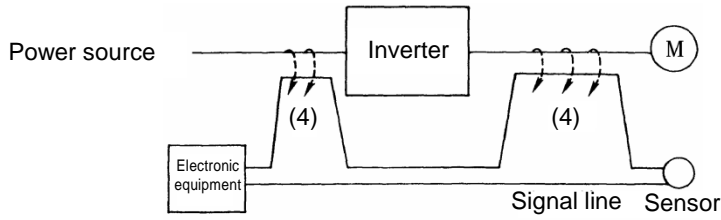
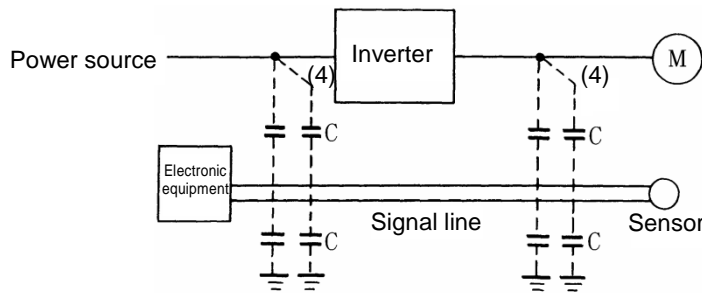

Figure A-4 Electromagnetic Induced Noise
Figure A-5 Electrostatic Induced Noise
**(2) Induction noise**
When wires or signal lines of peripheral devices are brought close to the wires on the input and output sides of the inverter through which noise current is flowing, noise will be induced into those wires and signal lines of the devices by electromagnetic induction (Figure A-4) or electrostatic induction (Figure A-5). This is called "induction noise" (4).